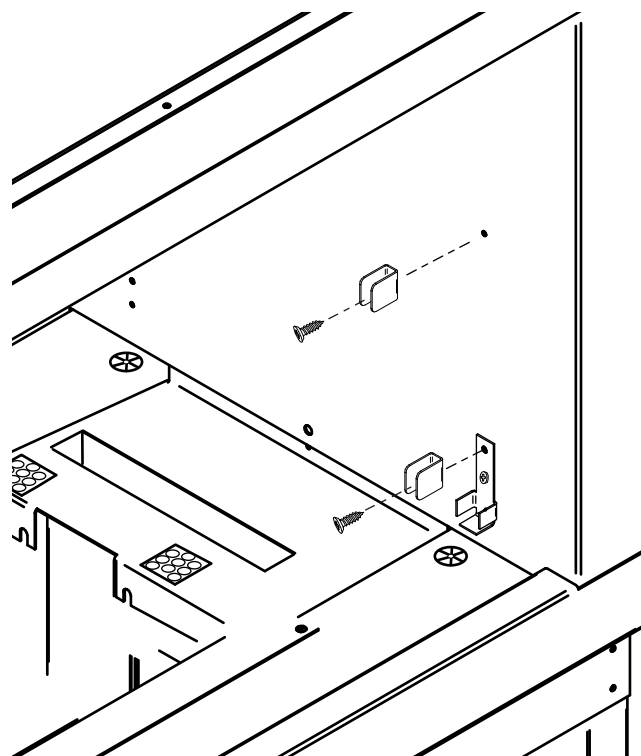

Fig. 18 Installing windshield clips
Step 4: Install the four (4) windshield clips, two on each side, one at the top and one with the LED retainer clip as shown in Fig. 18. **Note:** if you are preparing a see-through fireplace you will install a total of (8) windshield clips, four on each open side.